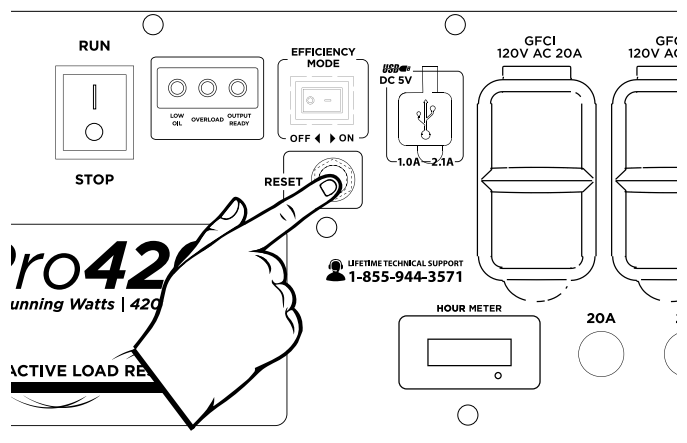

Figure 8: Press in reset breaker
3. Press in the reset breaker to reset it (see Figure 8).